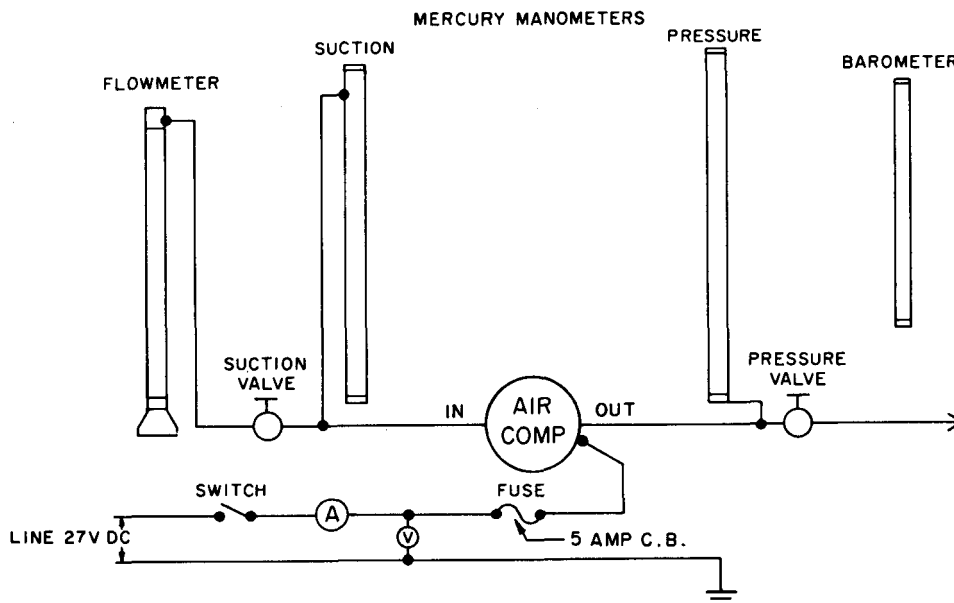

Figure 13. Air compressor test setup.
*a. Test Setup* (fig. 13). After reassembly of air compressor and prior to installation on pylon assembly, conduct the tests in *b*, *c*, and *d* below. Plug all compressor ports except during test to prevent entrance of dirt or foreign material.